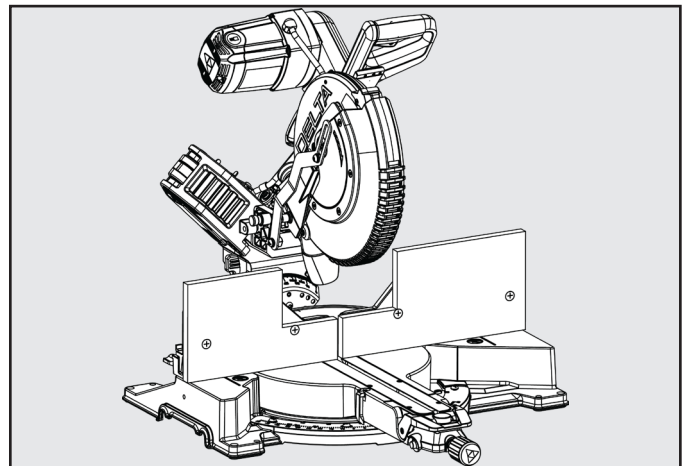

Figure 25
2. Place auxiliary fence wood against miter saw fence. See figure 25. The maximum height for this wood must not exceed 6.5". Check to make sure auxiliary fence does make contact with saw head, check with saw head in the full DOWN and fully RETRACTED position.